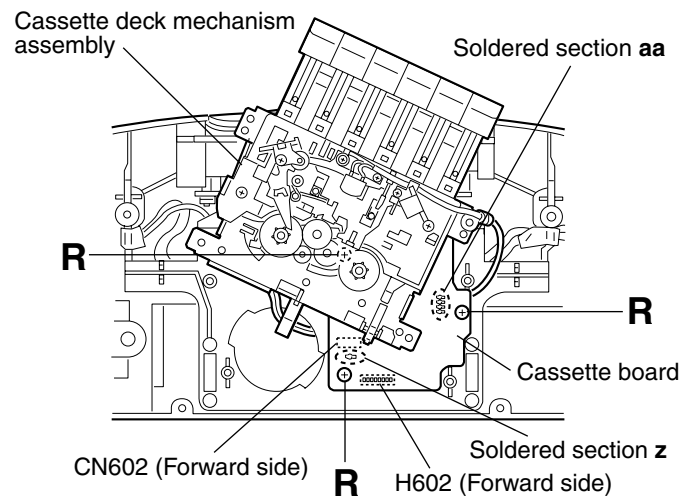

Fig.19
2. Lift the cassette deck mechanism assembly slightly and move it as shown in Fig.19.